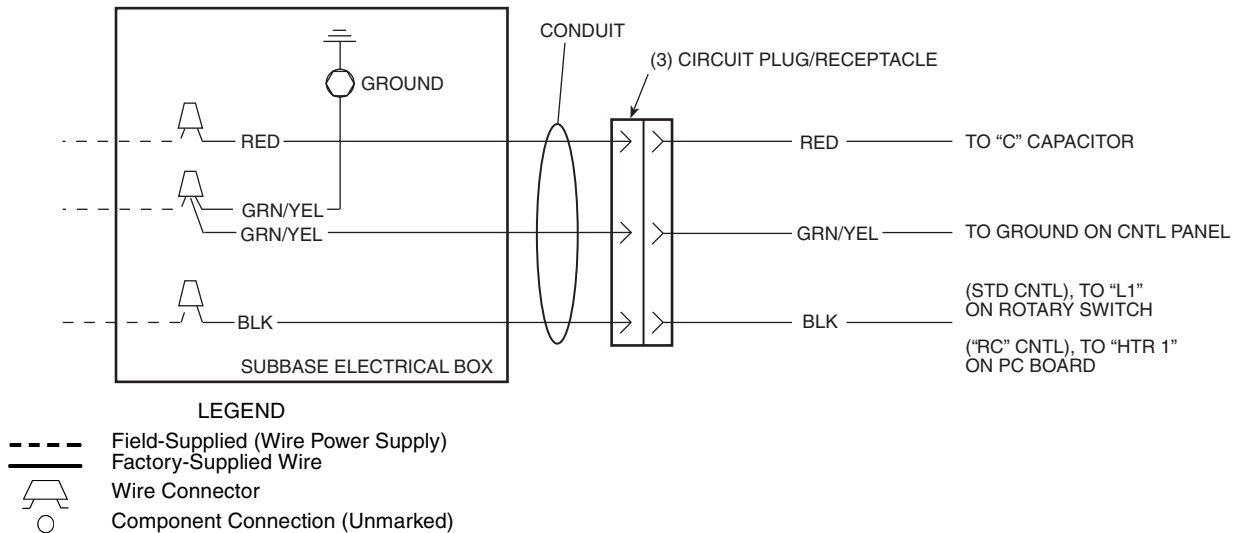

Fig. 5 — Wiring Diagram
Step 10 — Connect power to hardwire wires using field-supplied wire nuts. See Fig. 5 for wiring.